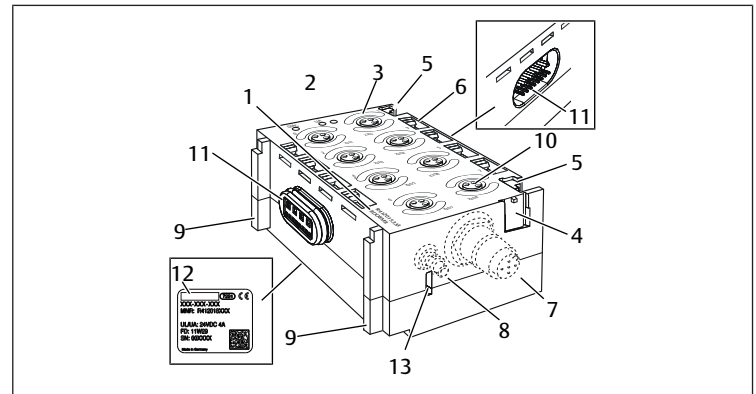

Fig. 4: Input module/output module
2. Mount the labels from the old I/O module onto the new I/O module or label the new I/O module (see Fig. 4: Input module/output module (4)).